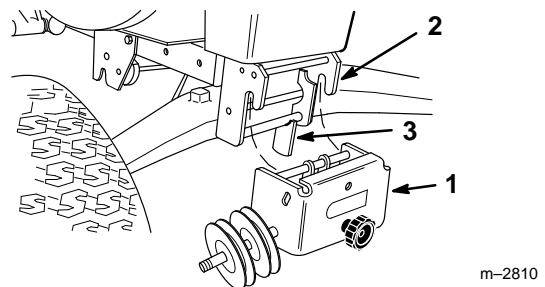

Figure 14
8. Open front hitch and remove pulley assembly (Fig. 14).